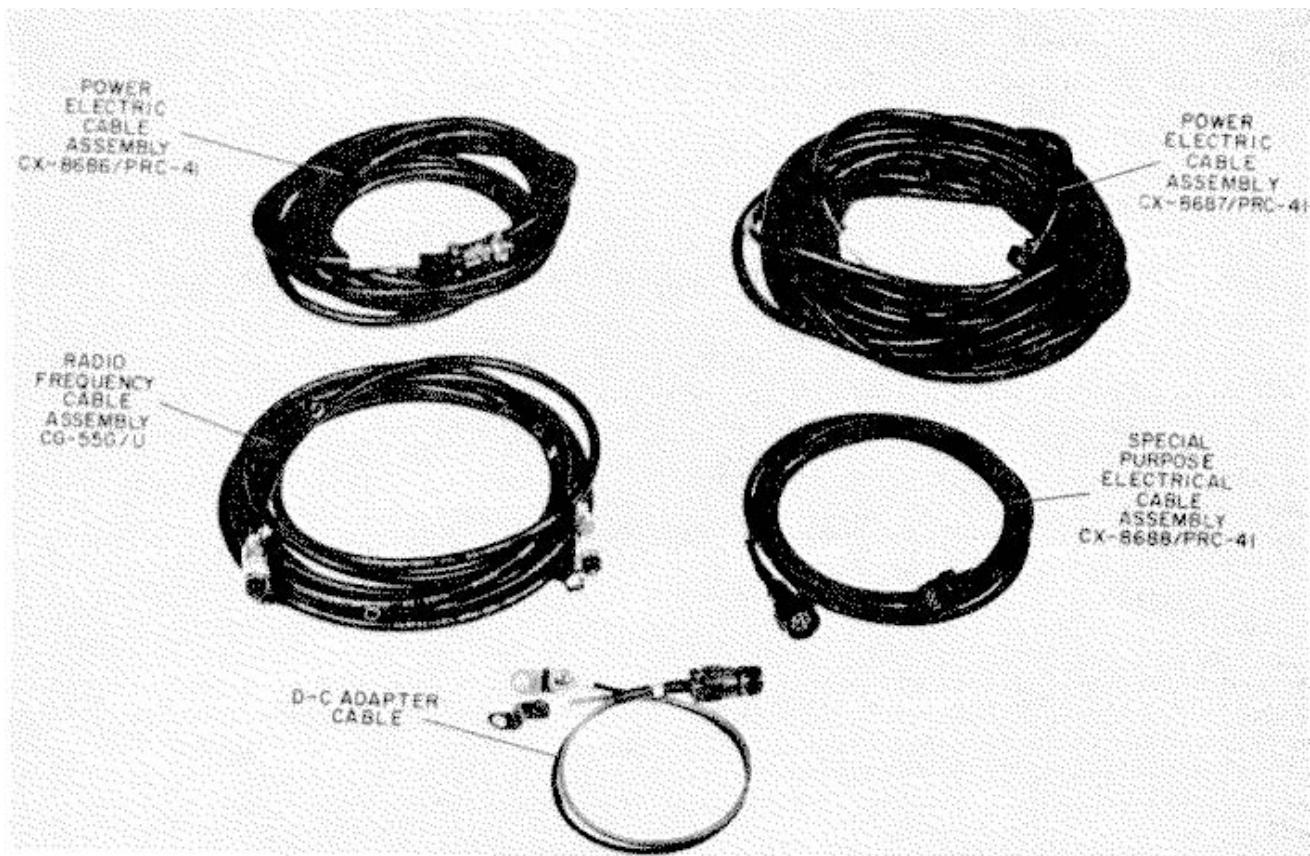

Figure 1-11. Cable Assemblies
(6) RADIO FREQUENCY CABLE ASSEMBLY CG-55G/U. - Refer to figure 1-11. Radio Frequency Cable Assembly CG-55G/U is a 20-foot length of RG-213/U coaxial cable with mating connectors. It is used for connection between the antenna connector on the front panel of Radio Receiver Transmitter RT-695/PRC-41 and Antenna AS-1405/PRC-41.
(7) POWER ELECTRIC CABLE ASSEMBLY CX-8686/PRC-41. - Refer to figure 1-11. Power Electric Cable Assembly CX-8686/PRC-41 is a 20-foot length of three-wire electrical cable with mating connectors. It is used for connection of Power Supply PP-3700/PRC-41 to Mounting MT-2976/PRC-41.
(8) POWER ELECTRIC CABLE ASSEMBLY CX-8687/PRC-41. - Refer to figure 1-11. Power Electric Cable Assembly CX-8687/PRC-41 is a 50-foot length of three-wire cable with suitable mating connectors. It is used to connect Power Supply PP-3700/PRC-41 to a 115-volt, 50- to 400-cps primary supply.
(9) SPECIAL PURPOSE ELECTRICAL CABLE ASSEMBLY CX-8688/PRC-41. - Refer to figure 1-11. Special purpose Electrical Cable Assembly CX-8688/PRC-41 is a 10-foot length of seven-conductor cable having suitable mating connectors. It is used to connect one of the AUDIO connectors on one Radio Receiver-Transmitter RT-695/PRC-41 to one of the AUDIO connectors on another RT-695/PRC-41 for automatic relay operation. Refer to paragraph 2-4d.
(10) D-C ADAPTER CABLE. - Refer to figure 1-11. The d-c adapter cable is a two-wire cable used in a vehicular installation to connect power between the vehicle d-c power source and the rear connector of Mounting MT-2976/PRC-41 through Power Electric Cable Assembly CX-8688/PRC-41.